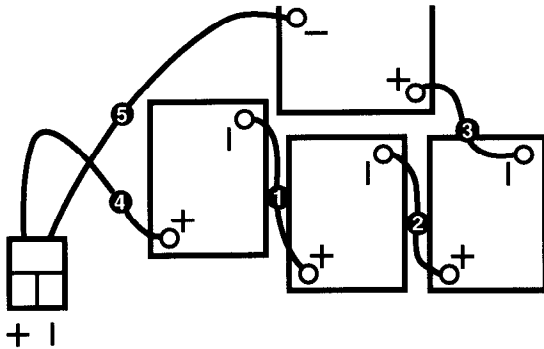

FIG. 4
- Carefully install batteries into compartment and arrange battery posts as shown. (Figure 4)
- Connect cables to battery posts in numerical order as labeled (RED TO POSITIVE & BLACK TO NEGATIVE). (Figure 4)